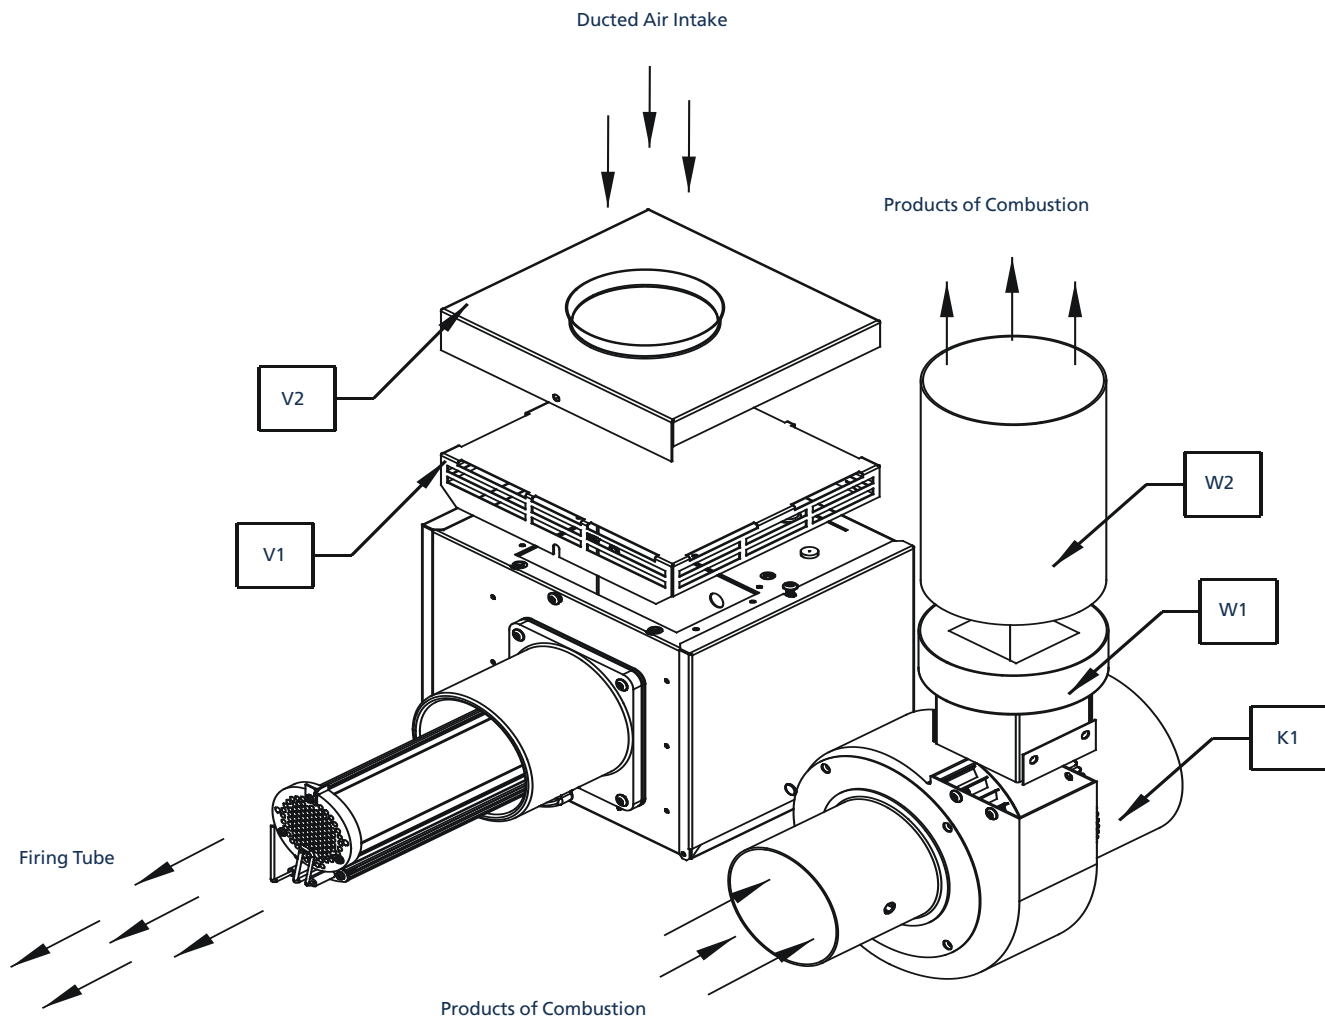

Figure 16. Option 1. Flue Attachment Induced Burners (VSEUTE)
Dependent on the type of burner fitted to your heater it is possible to have configurations of flue and combustion air inlet options in Figures 16 and 17:
- Option 1 - For induced burner with / without flue and / or optional ducted air inlet refer to Figure 16.